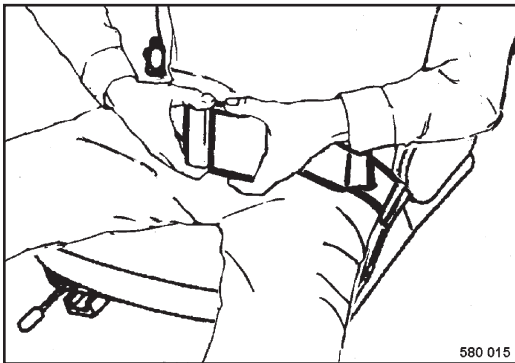

Fig. 42
- Fasten your seat belt (Fig. 42).